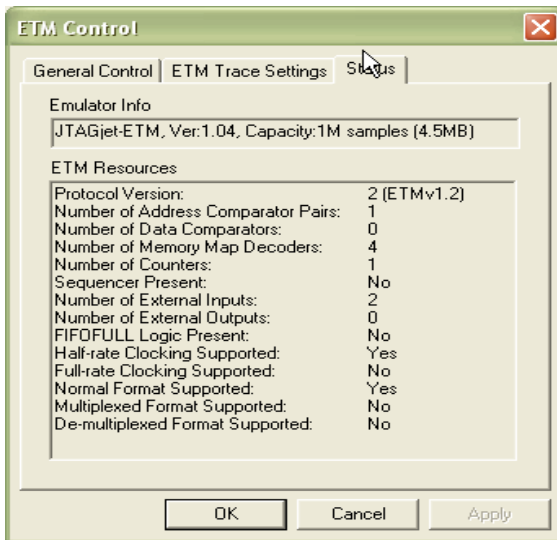

FIGURE 43 ETM Status tab showing the LPC2129 ETM resources
1. Select the **Status** tab in the **ETM Control** window to display information related to the ETM resources embedded into the target ARM device. Please read the contents of the information dialog box and note the description of the ARM device’s ETM resources (Figure 43). These resources can vary substantially from one ARM device family to another. Oftentimes, locating such information in the device’s data sheet is cumbersome.